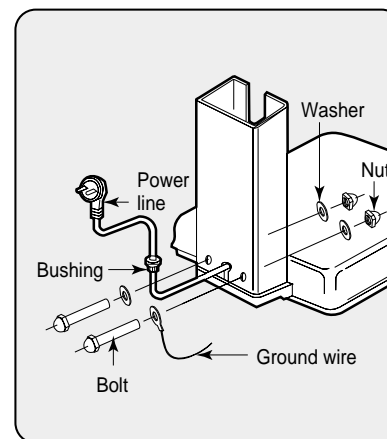

fig. 1
1. Insert the power line into the support. Fasten with bolts and nuts as fig 1.